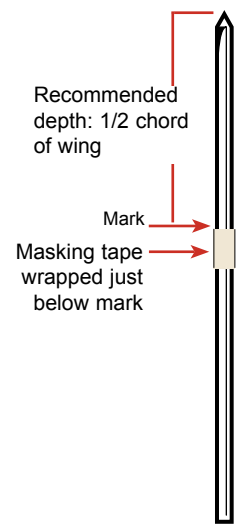

Figure 12
3. Measure the resulting distance from the pointed end of the drill rod and make a mark. Wrap a short piece of masking tape around the rod so that its edge is aligned with the mark (Figure 12). This will serve as a depth guide for drilling.